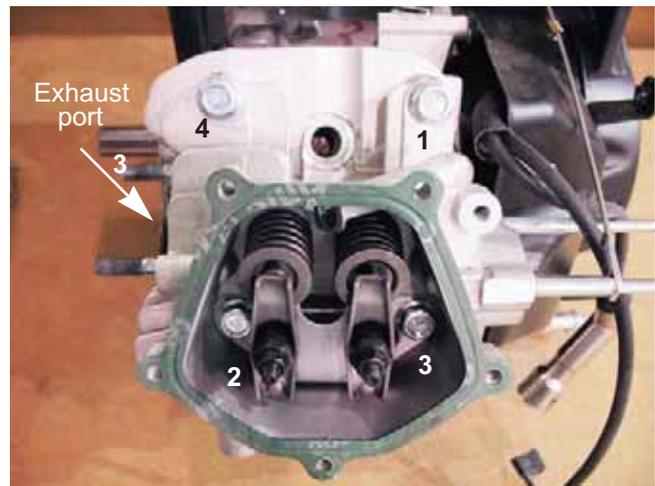

Figure 9.9
3. Install the 4 head bolts, and tighten them to a step torque of 38 - 41 ft-lb. (52 - 55 Nm) in an alternating diagonal pattern. See Figure 9.9.